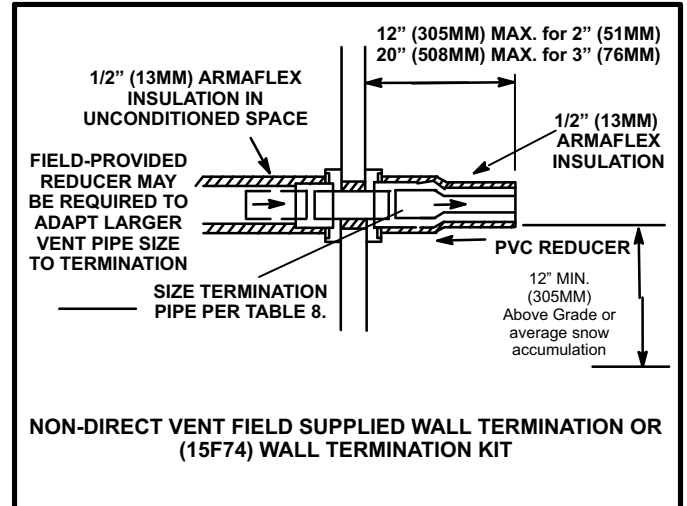

FIGURE 49
- 2 - On field supplied terminations for side wall exit, exhaust piping may extend a maximum of 12 inches (305MM) for 2" PVC and 20 inches (508MM) for 3" (76MM) PVC beyond the outside wall. See figure 49.